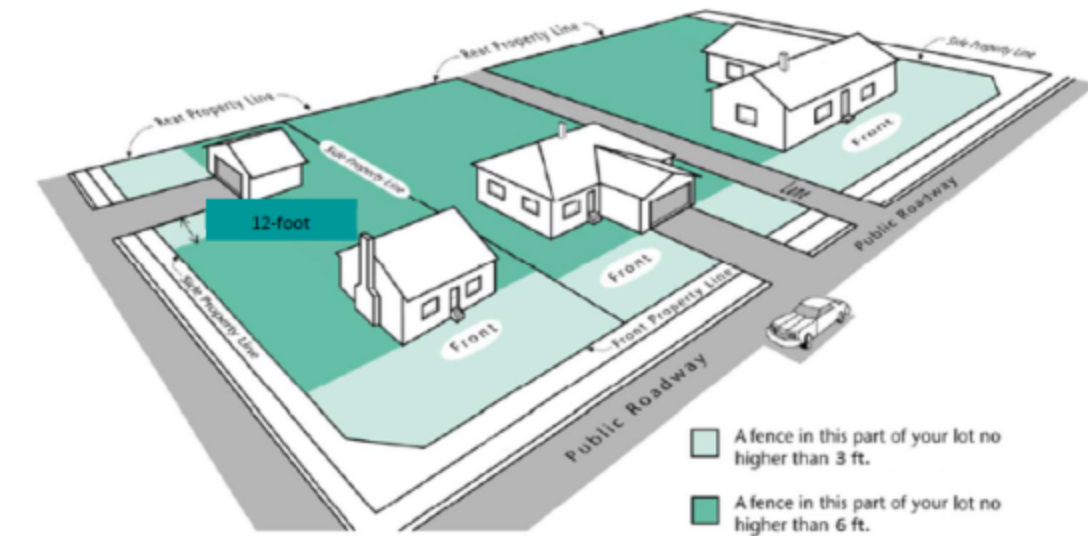

Figure 1.1
(5) South side of Porter Lane, from 400 West to Main Street. For all legally approved rear yard fronting lots along the creek channel, the fence height shall not exceed eight feet in height along the rear yard lot line.
(6) Street Side Yard, Corner Lots. For residential zones, fencing up to 6 feet in height may be allowed within the street side yard portion of a corner lot, as measured from an interior lot line of the lot to a line intersecting at the Front Yard Setback line of the lot along the other street. Exception, fences shall not exceed 4 feet in height for a minimum distance of at least 12 feet, when a driveway on an adjacent lot is located within 12 feet of the interior lot line of the corner lot (see Figure 1.1 for a visual reference).